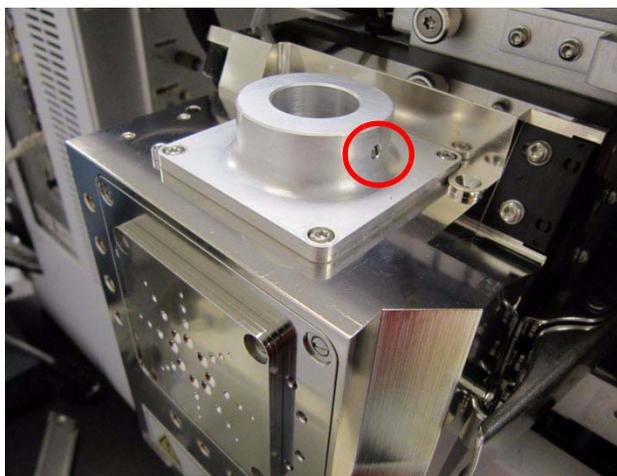

Figure 31 **Camera Plate** installed onto the **Nanospray Slide Assembly**.
- 5 Install the **Camera Plate** onto the top of the Nanospray Ion Source. Notice the orientation of the spring plunger in **Figure 31**.